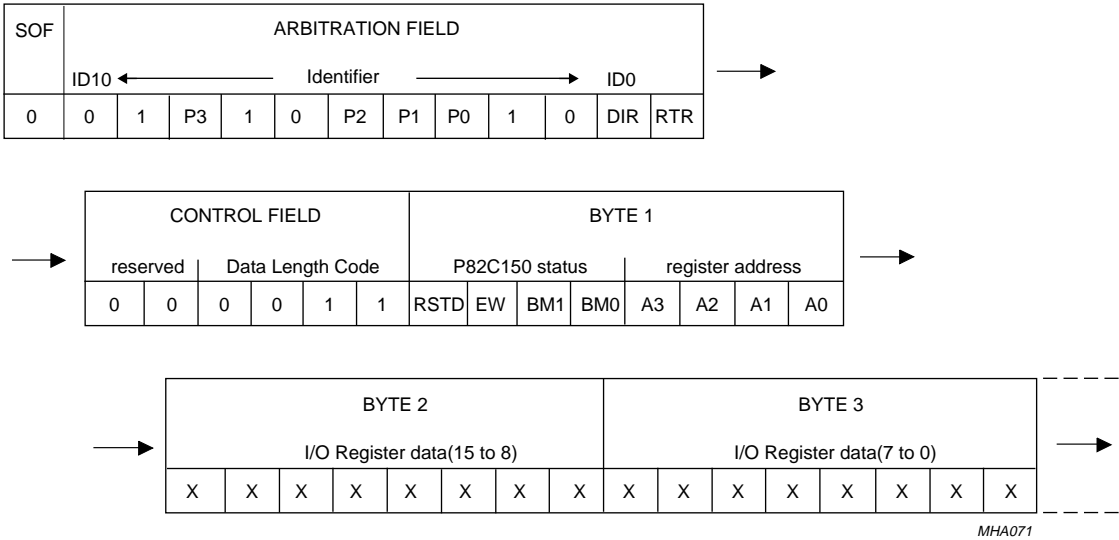

Fig.7 P82C150 Data Frame.
This read/write register contains the bits ADC, OC3 to OC1, M3 to M1 and SW3 to SW1 (see Fig.7).
- M3 to M1 bits (multiplexer control bits; write only bits). The logical value of the comparators is monitored on port pins P8, P9 and P7 (see Fig.7) by setting M3 to M1 to logic 1, provided that these pins are configured as outputs (OE = 1). Additionally the register content is sent automatically when the corresponding port bits in the Positive Edge Register and/or Negative Edge Register and the corresponding bits in the Output Enable Register are set.
- SW3 to SW1 (analog switch control bits; write only bits). One of the analog switches S1 to S6 can be closed by setting the switch bits to the corresponding value (see Fig.7 and Table 4).
Data Frames transmitted by the P82C150 contain three data bytes (see Fig.7). The first data byte contains the status information and the register address A3 to A0 (see Tables 8 and 9), the other two data bytes contain the content of the addressed I/O Register.